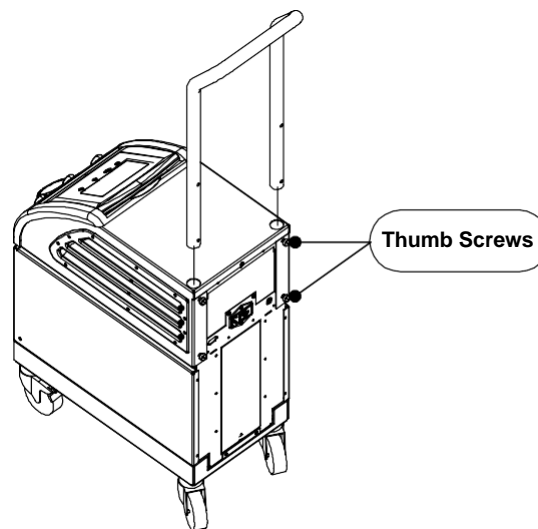

Figure 7: Handle Assembly.
2. Slide the two ends of the handle into the holes in the top cover (pay attention to the direction of the curve in the handle) until the handle is inserted all the way in (See Figure 7).